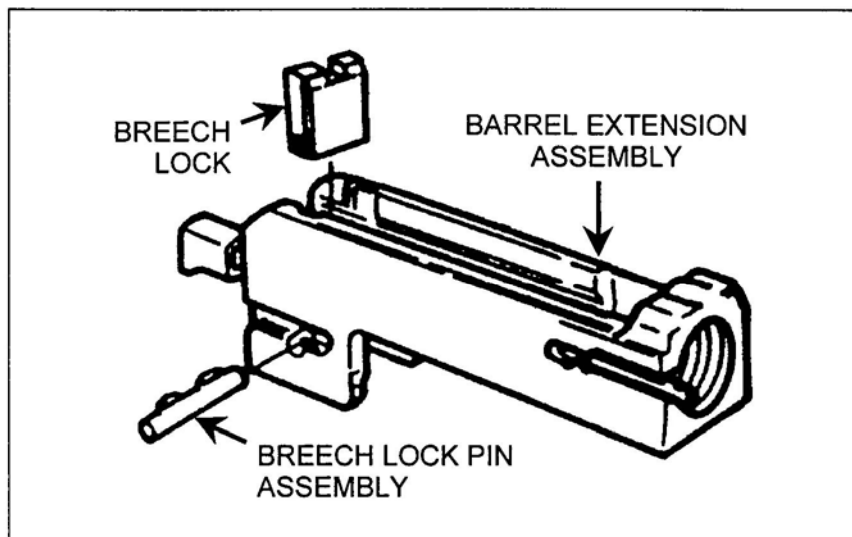

Figure 26. Assembly of the barrel extension assembly.
c. Assemble barrel extension (Figure 26).